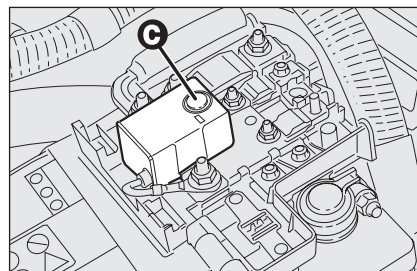

fig. 51
- ☐ press button **C-fig. 51** to reset the power supply.